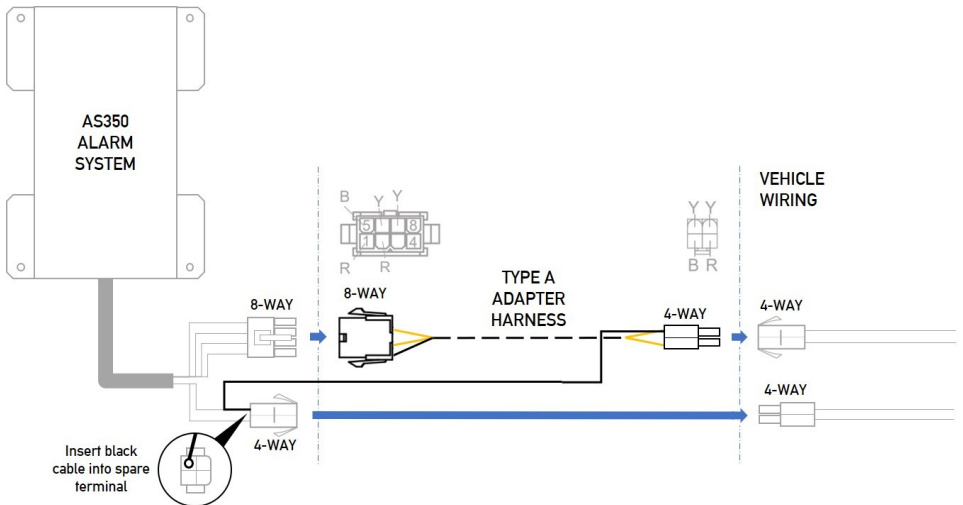

Fig1
3. Connect black wire on adapter harness to spare terminal on alarm 4-way socket (see Fig1)